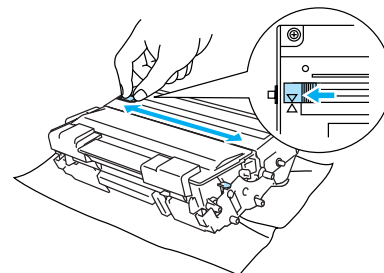

Fig.5-5
- (4) Unpack the new drum unit.
- (5) Put the toner cartridge firmly into the new drum unit until you hear it lock into place. If you put the cartridge in properly, the blue lock lever will lift automatically.
- (6) Check that the blue tab is on the home position. (Fig.5-5)
- (7) Gently wipe the scanner window with a dry, soft cloth.